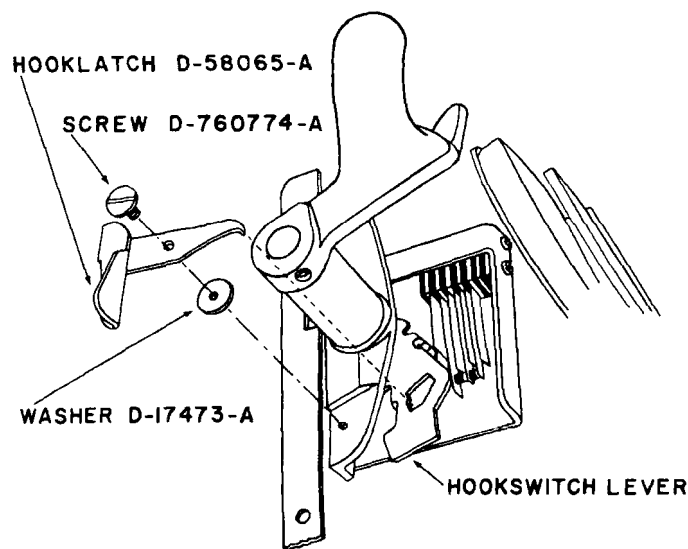

Figure 24. Hooklatch installation (loop compensating).
by ordering one each of the three D-numbered parts shown in figure 24. Follow the steps below to install the hooklatch:
- Remove the plastic telephone housing. Pass the shouldered D-760774-A screw through the hooklatch and then through the washer, then put the hooklatch tip into the large irregular hole in the hookswitch lever, and tighten the screw into the tapped hole shown in figure 24. No wiring changes are required.